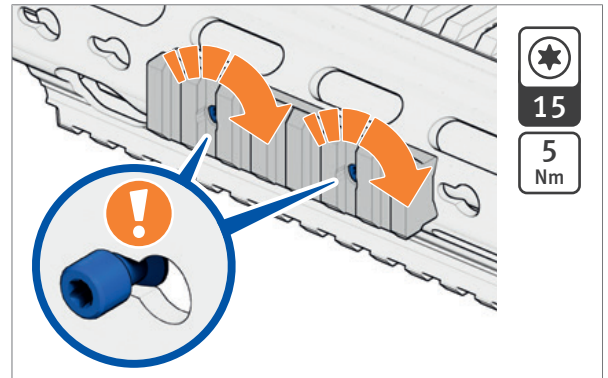

Fig. 37: Tighten screws for Picatinny rail
4. Tighten locking screws for Picatinny rail clockwise with torque wrench until the torque is reached (Fig. 37).